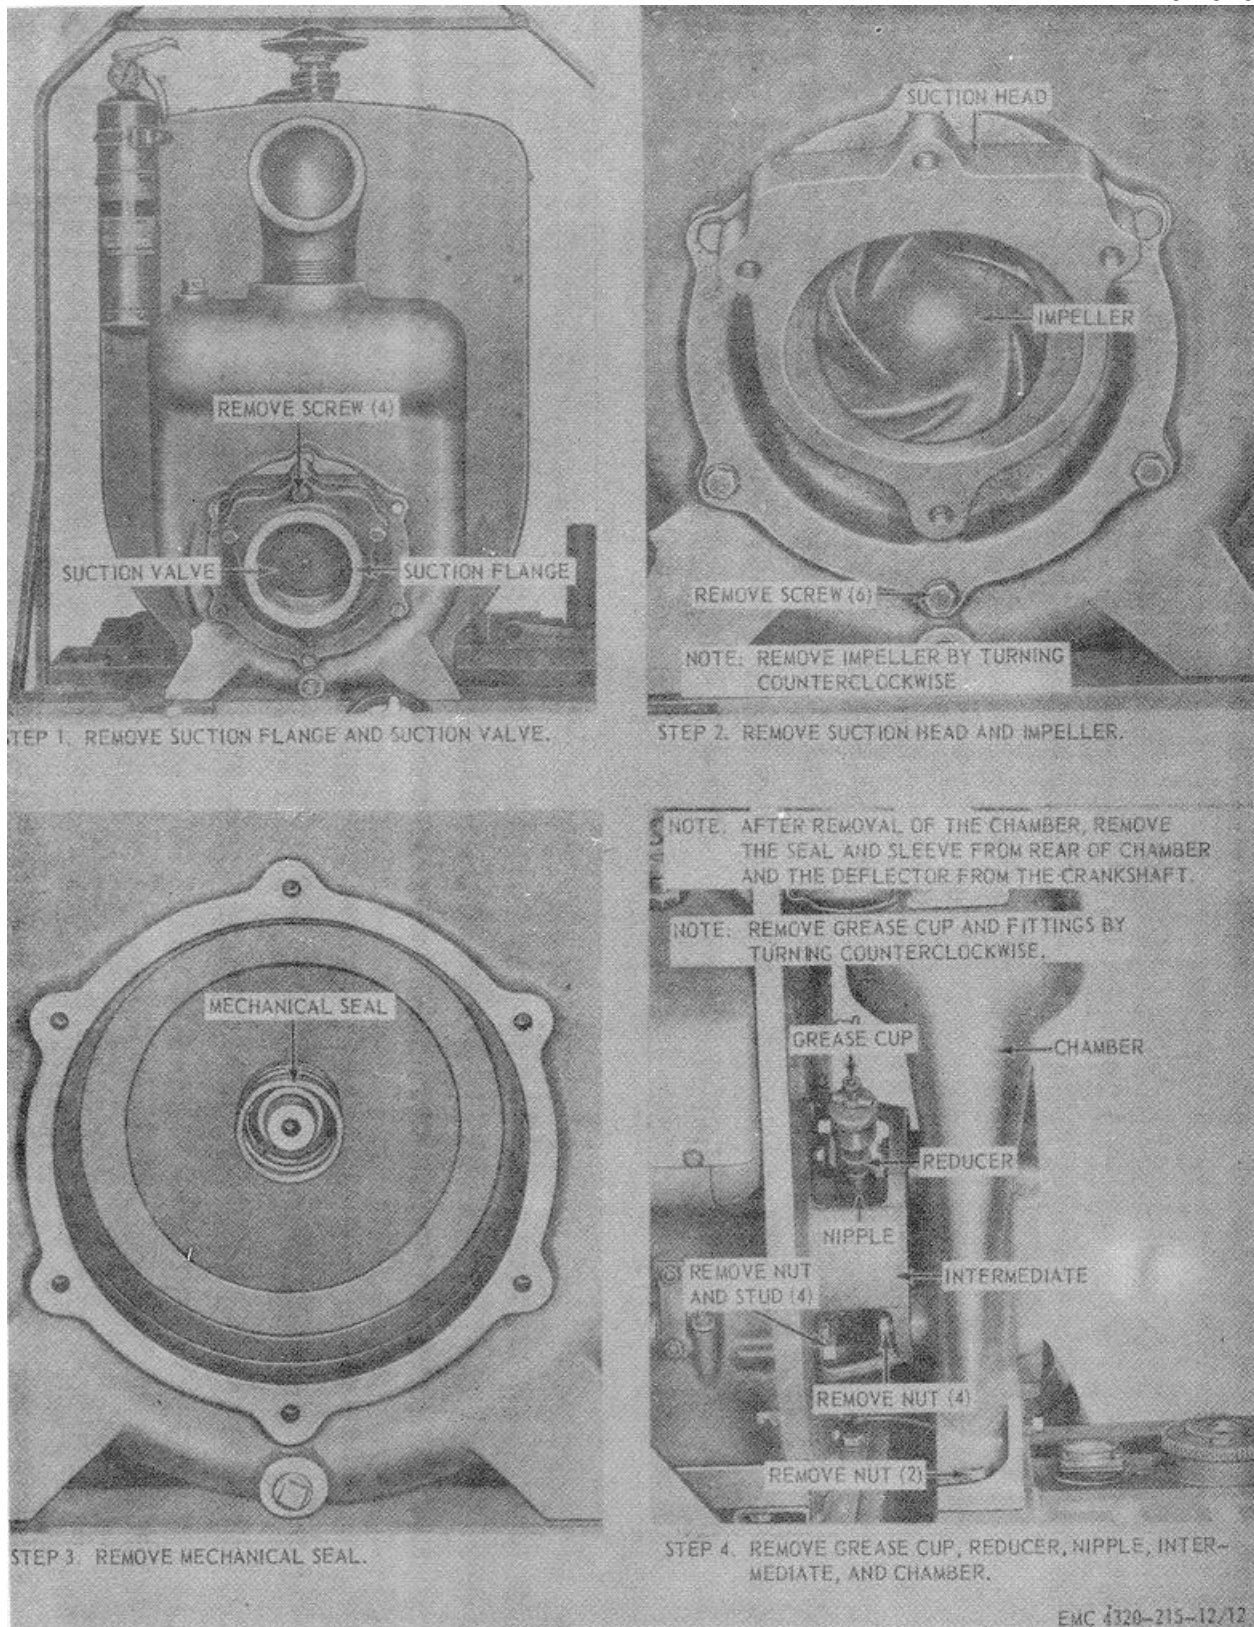

Figure 12. Centrifugal pump, grease cup, reducer, and nipple, removal and installation.
- b. Remove and install the centrifugal pump, grease cup, reducer, and nipple as shown by figure 12.